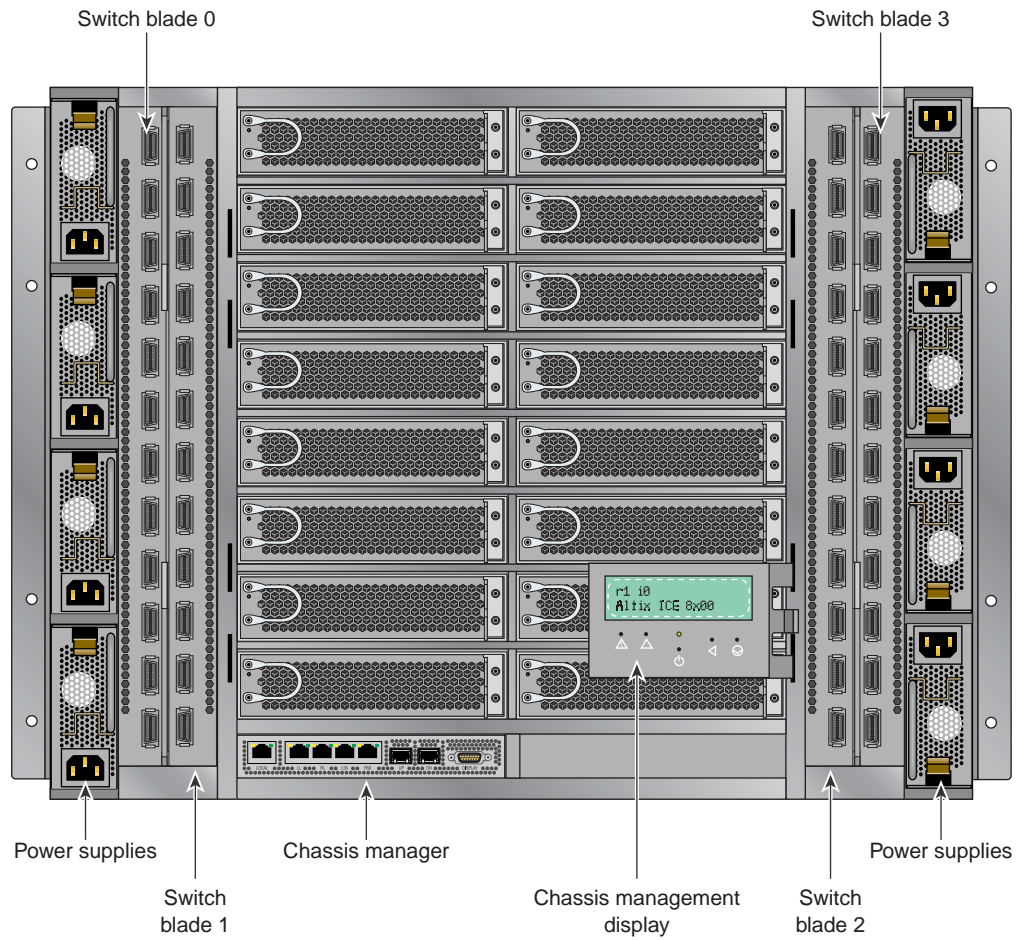
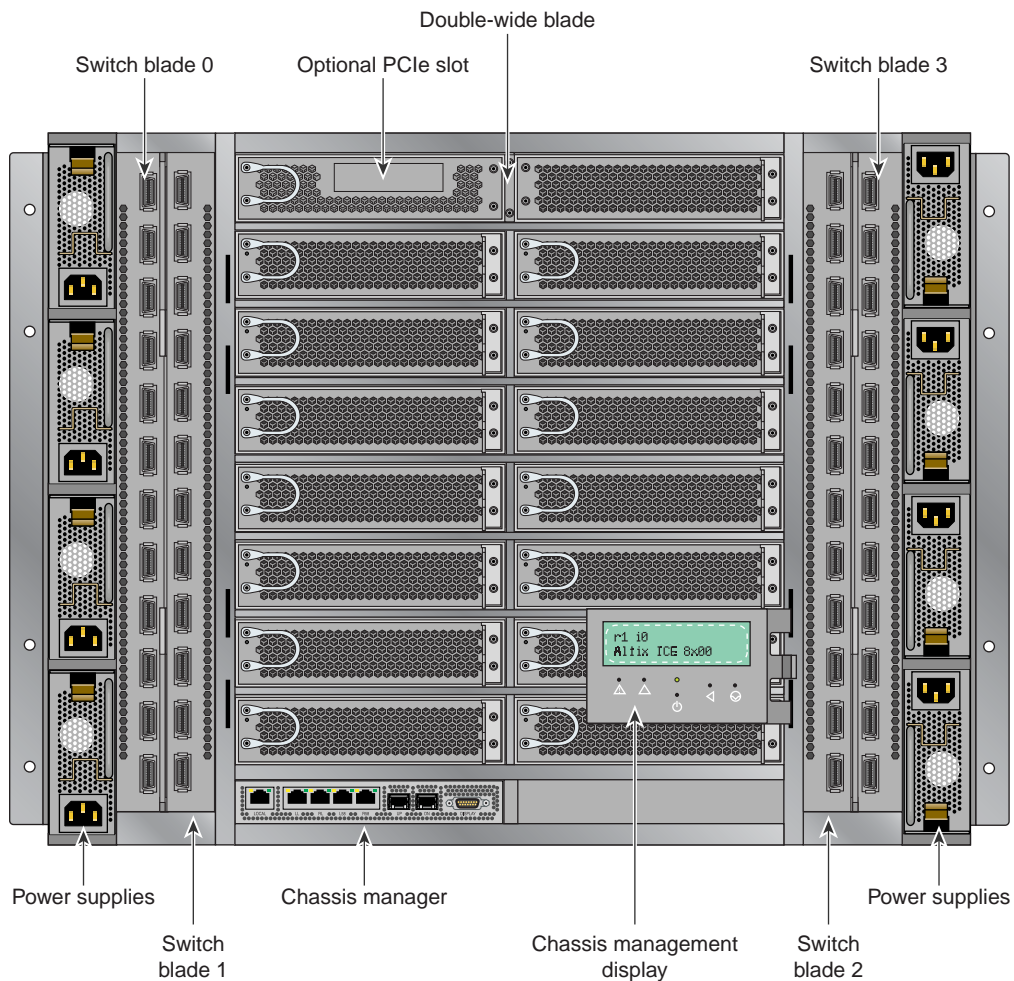

Figure 3-8 Altix ICE 8200 Series IRU System Components Example
Figure 3-9 Altix ICE 8200 Series IRU With Optional Double-Wide Blade Example
A minimum of one dual-inline-memory module (DIMM) set (2 DIMMs) is required for each single-wide blade. Single-wide (IP85) blades are supported with 2, 4, 6, or 8 installed DIMMs. Optional double-wide (IP83) blades use 4, 8, 12 or 16 DIMMs. An IRU example using single-wide blades is shown in Figure 3-8 on page 38, a double-wide blade is shown in Figure 3-9.
- **Individual Rack Unit (IRU).** This enclosure contains the compute/memory blades, chassis manager, InfiniBand fabric I/O blades and front-access power supplies for the Altix ICE 8200 series computers. The enclosure is 10U high. Figure 3-8 on page 38 shows the Altix ICE 8200 series IRU system components, Figure 3-9 on page 39 shows an example IRU with an optional double-wide blade installed in the top slot. Note the optional half-height PCIe slot in the double-wide blade's left section.